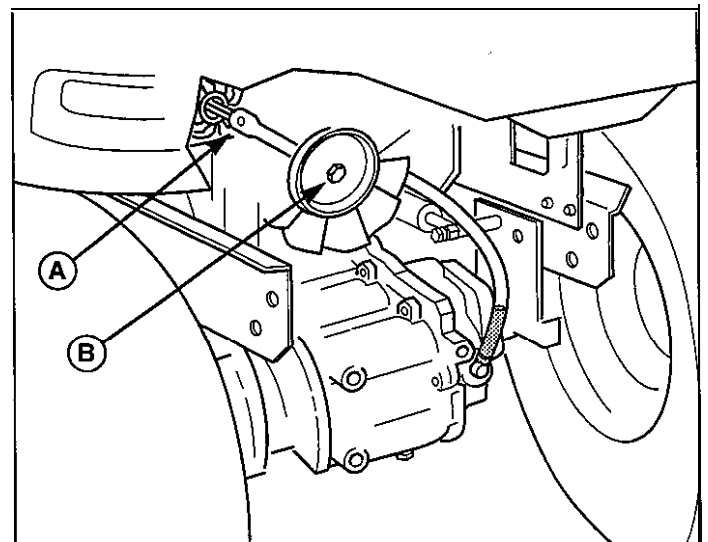

Figure 3. Remove Hydro Fan & Shaft Assembly
2. Remove the set screw (A, Figure 3) from the hydro pump shaft and fan assembly.
NOTE: For easier access to the set screw (A, Figure 3), remove the capscrew (B, Figure 3) retaining the fan, and remove the fan.